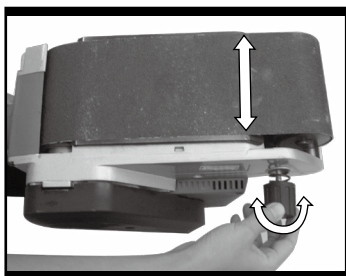

Fig. 5
5. BELT CENTERING CONTROL (See Fig.5)